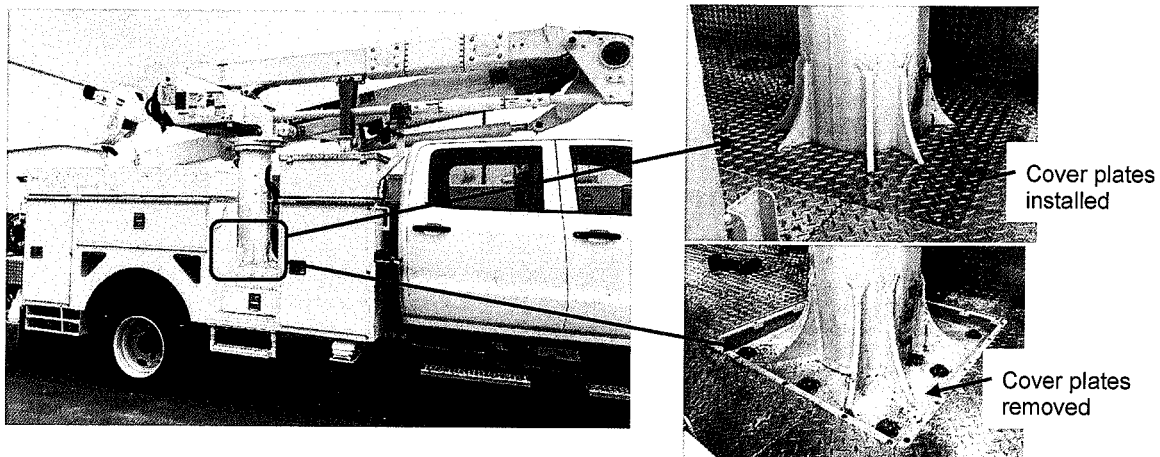

Figure 1. Area of unit to inspect pedestal to sub-base mounting bolts
1. Immediately inform all users, operators, and supervisors that the pedestal to sub-base mounting bolts must be inspected before further use. Cover plates at the base of the pedestal may need to be removed to inspect the bolts, refer to Figure 1.